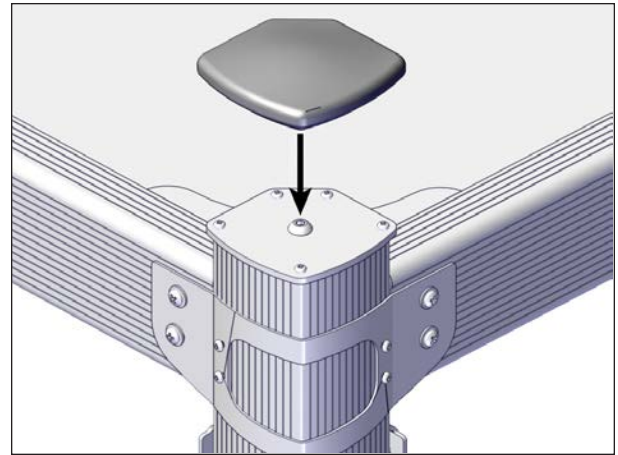

FIGURE 51: RUBBER CAP INSTALLATION
30. Install the rubber caps on all posts. These caps are in the parts box and protect the post assembly tops from weathering, see Figure 51.